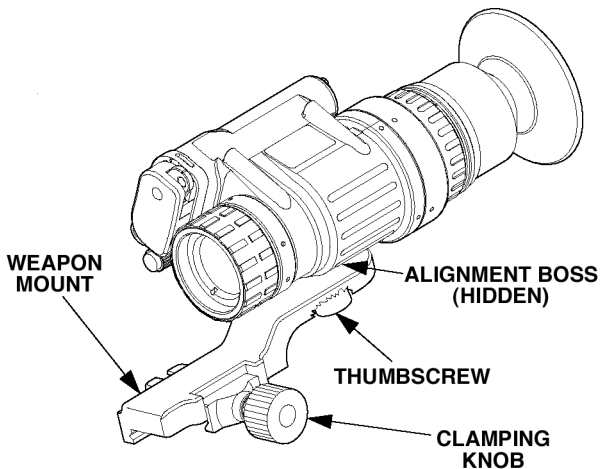

Figure 2-16. Weapon Mount Usage.
(1) Orient the monocular and weapon mount as shown in Figure 2-16, Be sure to align the alignment boss on the weapon mount with the alignment groove in the monocular.
(2) Screw in the thumbscrew to secure the monocular to the weapon mount.
(3) Loosen the clamping knob on the weapon mount. Position the weapon mount with the monocular onto the weapon's mounting rail. Tighten by turning the clamping knob.